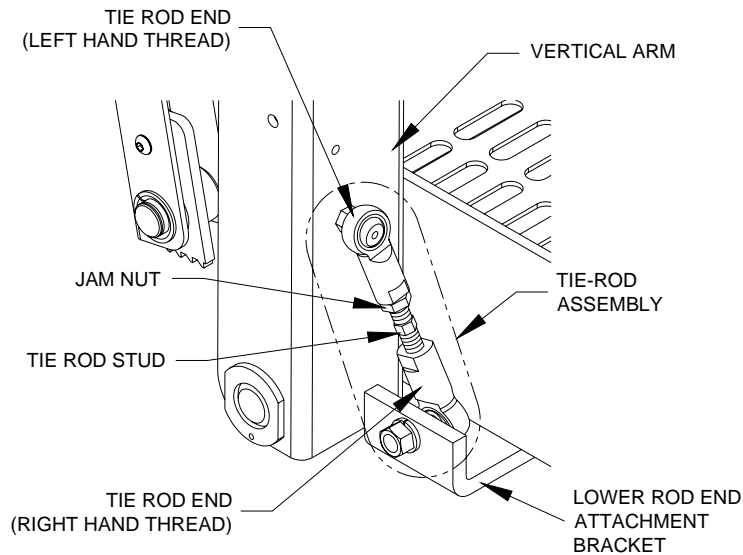

FIGURE 2-12: ADJUSTMENT HARDWARE FOR PLATFORM FOLDING LINKAGE
- b. Refer to **Figure 2-12**. Adjust left and right tie rod assemblies. Loosen jam nuts and then lengthen or shorten tie rod studs until there is a minimum of free-play in tie rod assemblies. Tighten jam nuts.